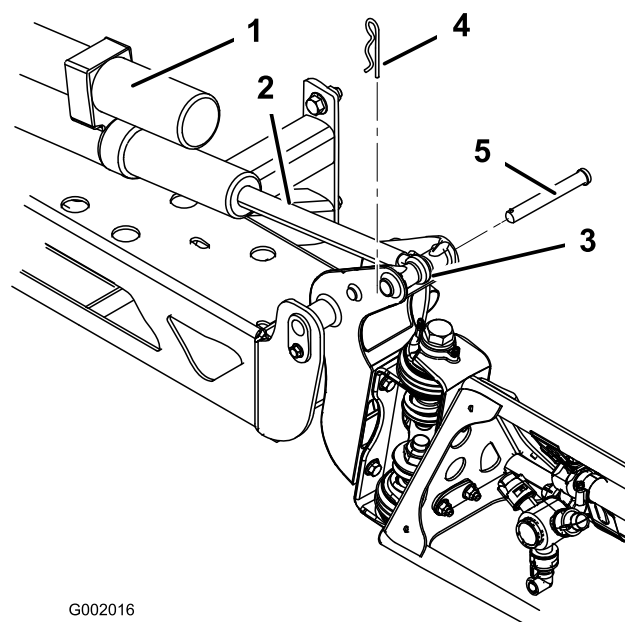

Figure 41
2. Remove the cotter pin from the pivot pin (Figure 41).
3. Lift up on the boom and remove the pin (Figure 41). Slowly lower the boom to the ground.
6. Raise the boom to align the pivot with the actuator rod. While holding the boom, insert the pin through both boom pivot and actuator rod (Figure 41).